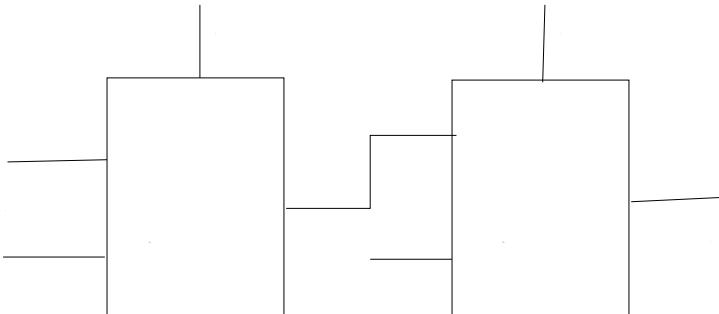

Fig. 4.19
30. The output F of the digital circuit shown in Fig. 4.19 can be written in the form(s) _____ (GATE IN 2022)